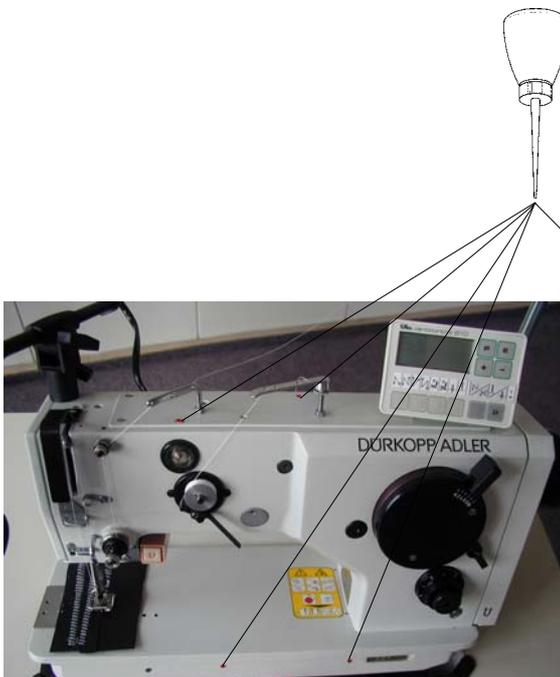

Fig. 12
For lubricating the machine use Esso SP-NK 10 oil or another oil of the same quality (viscosity at 40° C: 10 mm²/s; inflammation point: 150°C). Before starting the stitching operation, put one oil drop into the holes marked with red colour on the machine (Fig. 12, 13). Check up specially the oil level on the oil level gauge (1) for lubricating the hook. Refill oil through the hole (2) above the oil level gauge only when the oil lever considerably sinks below the middle of the oil level gauge.